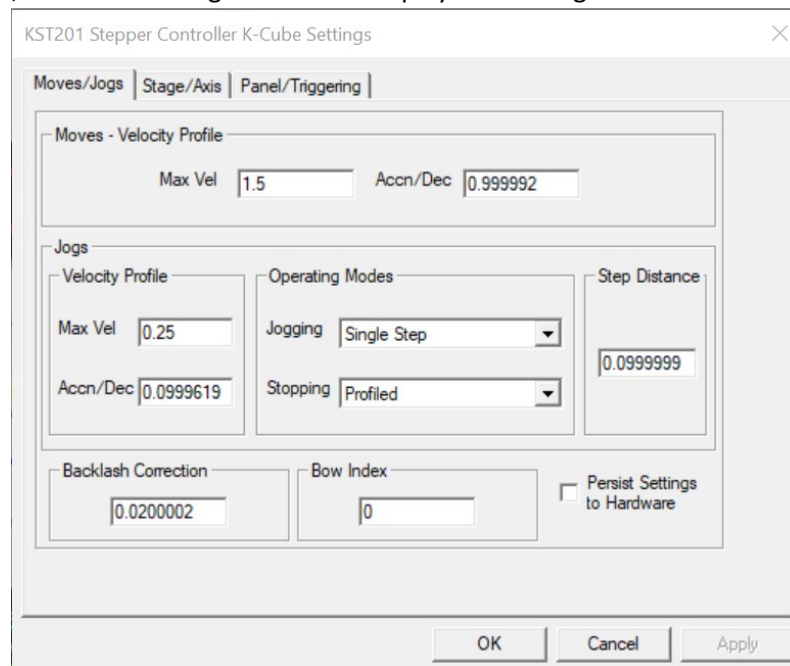

Figure 18 Settings Panel – Move/Jogs Tab
2. Select the Move/Jogs tab as shown in Figure 18.